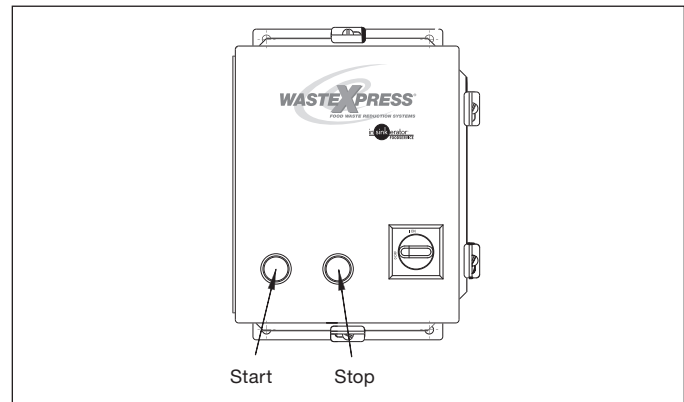

Figure 20.
6. Push start button on the control center (see Figure 20). The WX-101A and disposer will run and cold water will flow into the disposer.